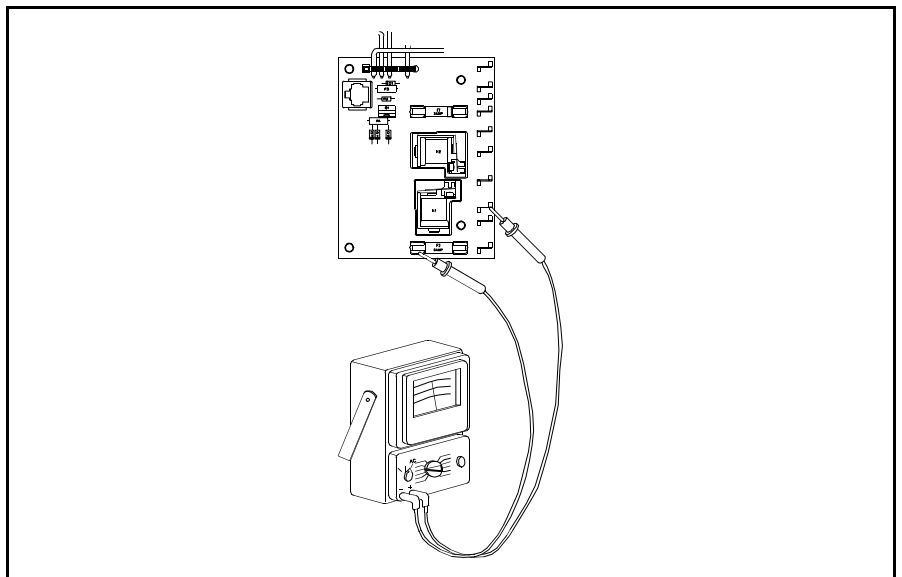

Figure 5.44 5 Amp Fuse Check
8. Check for 120 volts across the 5 amp fuse as shown by Figure 5.44.